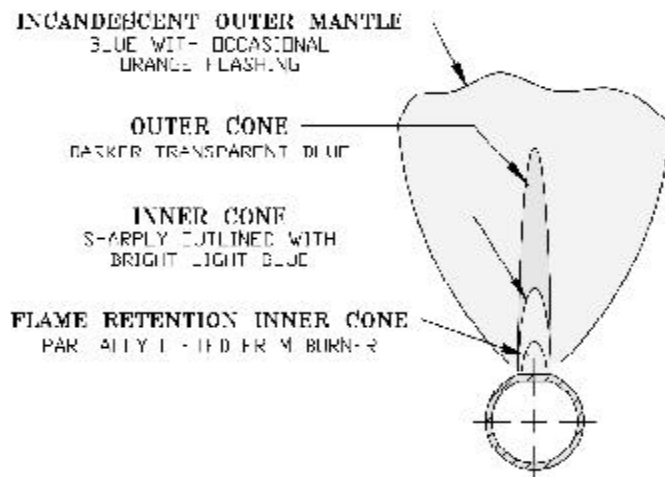

Figure 16: Main Burner Flame
I. Check main burner flame. See Figure 16. Flame should have clearly defined inner cone with no yellow tipping. Orange-yellow streaks should not be confused with true yellow tipping.